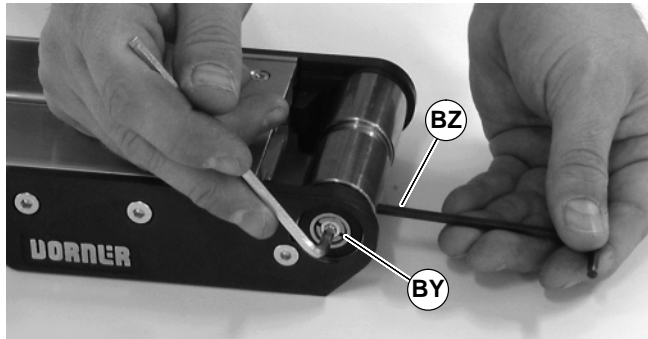

Figure 52
3. On both sides of pulley, use a 4mm hex-key wrench to tighten pulley taper screw (BY of Figure 52) to 35 in-lb (4 Nm). Steady pulley with second hex-key wrench (BZ) inserted into pulley hole.